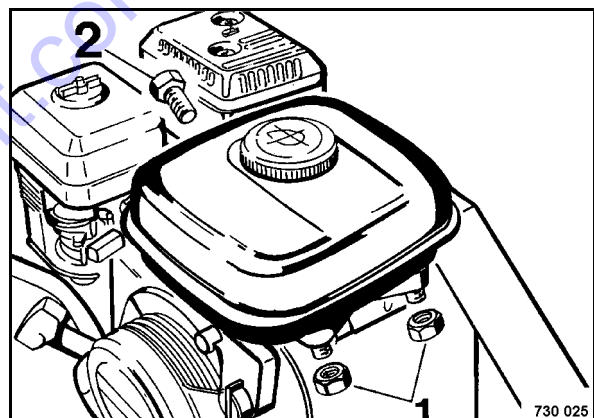

Fig. 62
- Disassemble the fuel tank, for this purpose unscrew hexagon nuts (1) (Fig. 62) and hexagon screw (2).